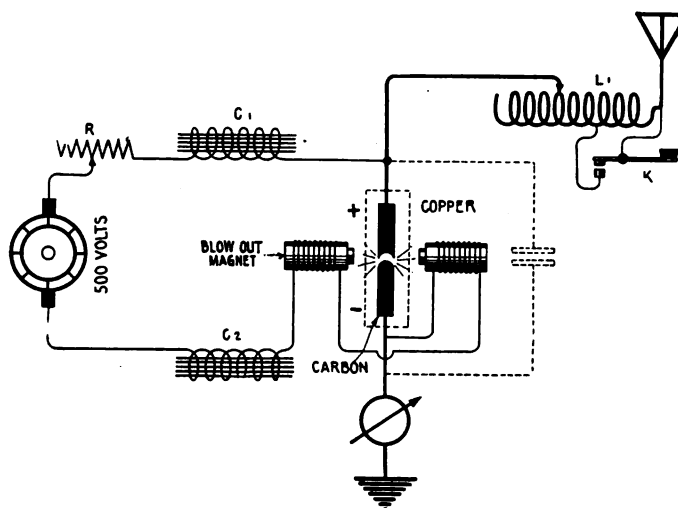

Figure 184
The important feature of figure 184 is that the arc gap is connected directly in series with the aerial circuit.
(1) It is through the features shown in figure 184 that the arc transmitter has been brought to the degree of perfection required for commercial application.